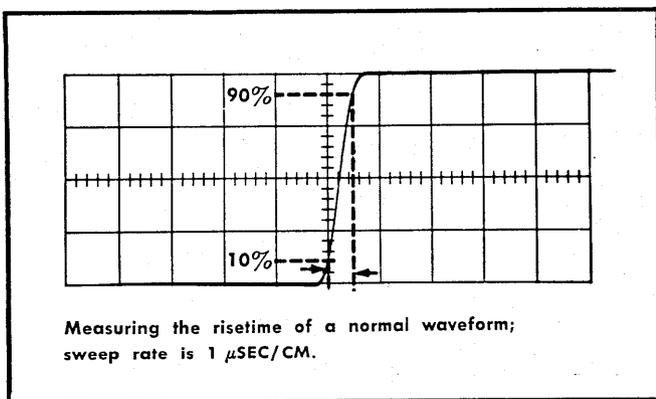

Fig. 5-5. Measuring the risetime of a normal waveform; sweep rate is 1 μ SEC/CM.
g. Check—Risetime is typically 2 μ s or less. See Fig. 5-5.